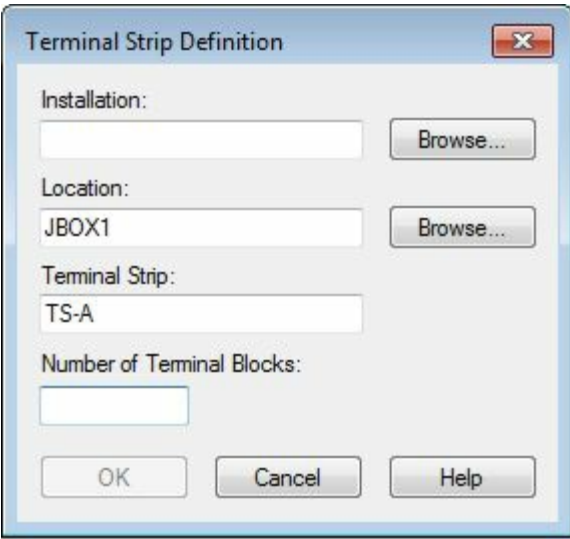

Figure-29. Terminal Strip Definition dialog box
- If you want to add a new terminal strip, then click on the **New** button from the dialog box. The **Terminal Strip Definition** dialog box will be displayed; refer to Figure-29.